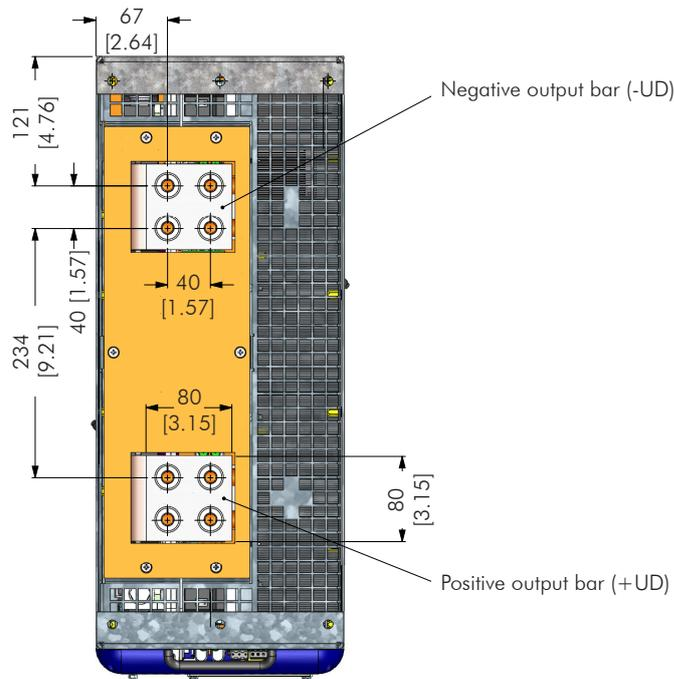

Figure 3.14 - UR11 output bus bar, DC connections (mm [in])
The fastening of the UR11 output connections is done with four M12 x 25 bolts (tightening torque: 60 N.m.), as presented at Figure 3.14 on page 3-14. Refer to item 3.4.2 Cables/Bus Bars on page 3-6 for more information.